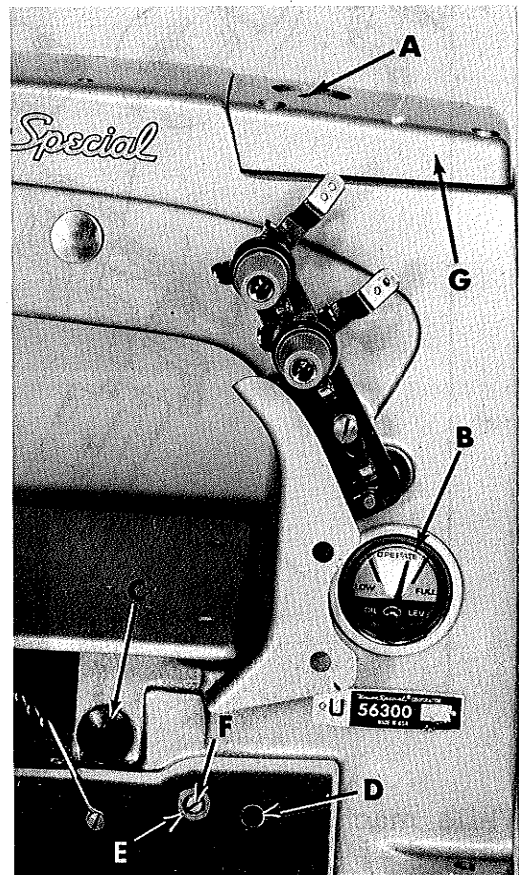

Fig. 2
**CAUTION!** Oil has been drained from the main reservoir before shipment, so the reservoir must be filled to the proper level as indicated on oil gauge (A, Fig. 1 or B, Fig. 2) before beginning to operate. Run machine slowly for several minutes to distribute the oil to the various parts. Full speed operation can then be expected without damage.
Use a straight mineral oil of a Saybolt viscosity of 90 to 125 seconds at 100° Fahrenheit in the main reservoir. This is equivalent to Union Special specification No. 175. Fill main reservoir at plug screw in upper crank chamber cover (A, Fig. 2) and check oil level at gauge (B). Oil is at maximum safe operating level when needle is to the black line, located to the right of "OPERATE" zone, marked "FULL". Oil should be added when needle is to the black line, located to the left of "OPERATE" zone, marked "LOW". See paragraph under "Changing Stitch Length" in Catalog No. 129 M, Fourth Edition, for repacking feed rocker bearings.
For machines in operation check the oil for lint deposits at reasonable intervals. If dirty, change the oil. An oil change is recommended every 2000 operating hours. Oil may be drained from main reservoir by removing plug screw (C, Fig. 2) located below the cloth plate at front of the machine, or by removing the lower crank chamber cover, located at the back of machine.
2. Remove the oil reservoir plug screw (C, Fig. 2) and tip machine forward to drain oil from the reservoir.
5. Fill main reservoir to a level even with the bottom contour of the knee press shaft bushing (D, Fig. 2).
6. Loosen lock nut (E) on calibrating screw (F), and turn the screw to the left or right until the gauge needle rests on the black line, located to the left of "OPERATE" zone, marked "LOW".
7. Tighten lock nut (E) and replace plug screw (C) and lower crank chamber cover.